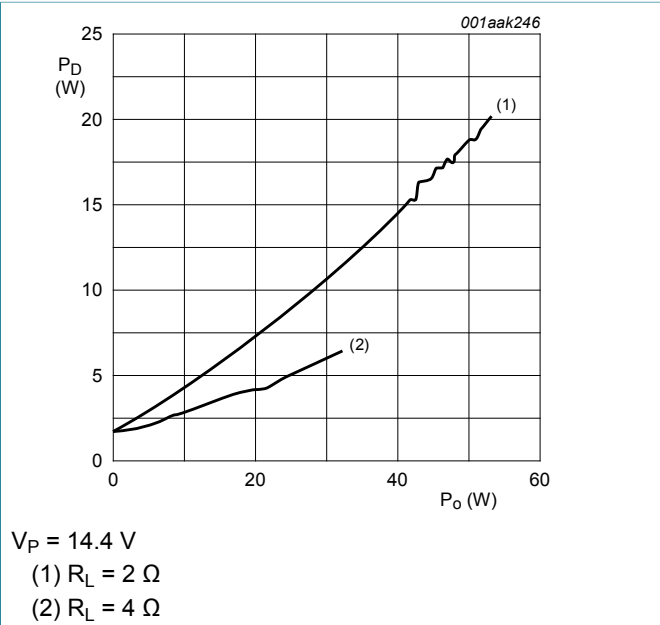
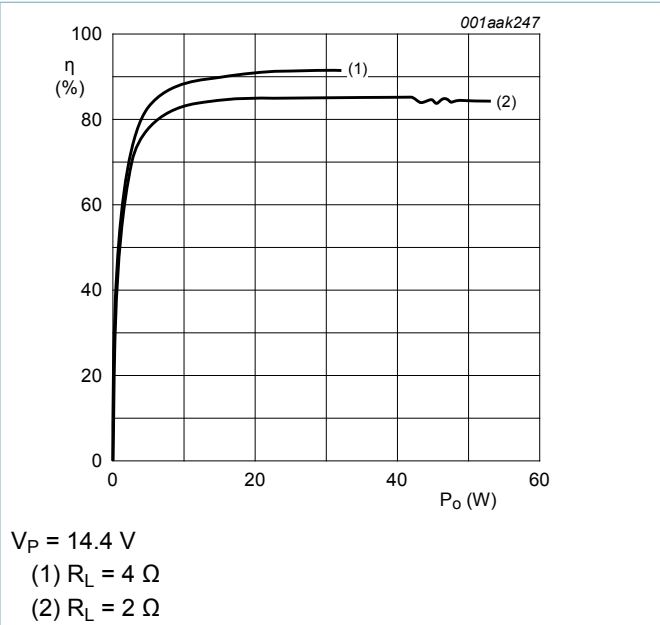

Figure 42. Power dissipation as a function of total output power with both channels driven; $V_P = 14.4$ V
Figure 43. Efficiency as a function of total output power with both channels driven; $V_P = 14.4$ V
P_{max} is determined by the efficiency (η) of the TDF8599B. The efficiency measured as a function of output power is given in Figure 43. The power dissipation can be derived as a function of output power (see Figure 42).
- $P_{max} = 5.8 W$ (from Figure 42)